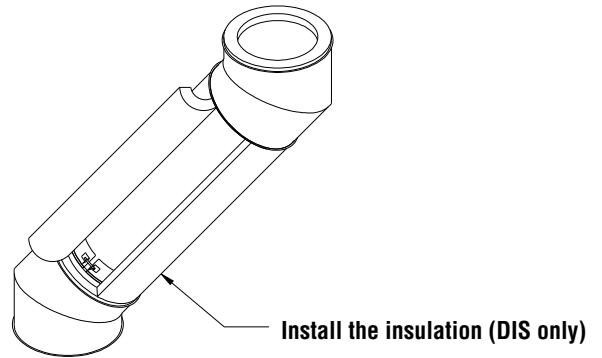

Figure 64 - Variable length, Installation step F
- f. Install the insulation over the inner wall (DIS only). See **figure 64**.
- g. Install the split outer casing by inserting the crimped end under the male coupling first. Tighten the bolts and install the locking bands of downstream and upstream parts. See **figure 64**.